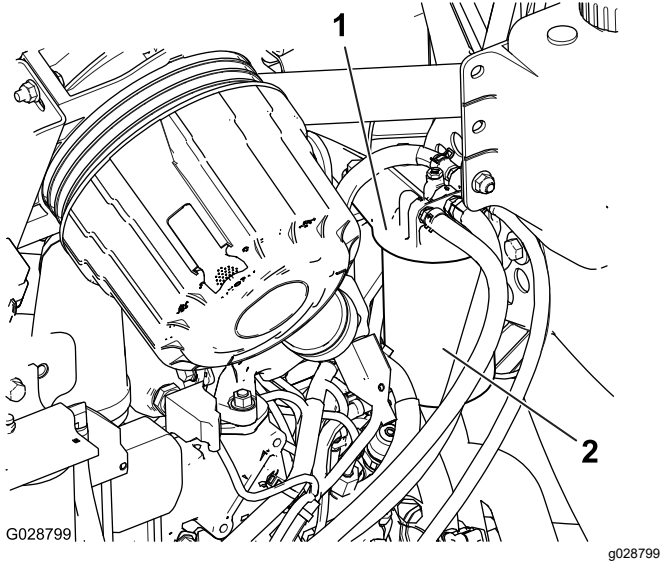

Figure 57
1. Clean the area around the fuel-filter head (Figure 57).
2. Remove the filter and clean the filter head mounting surface (Figure 57).